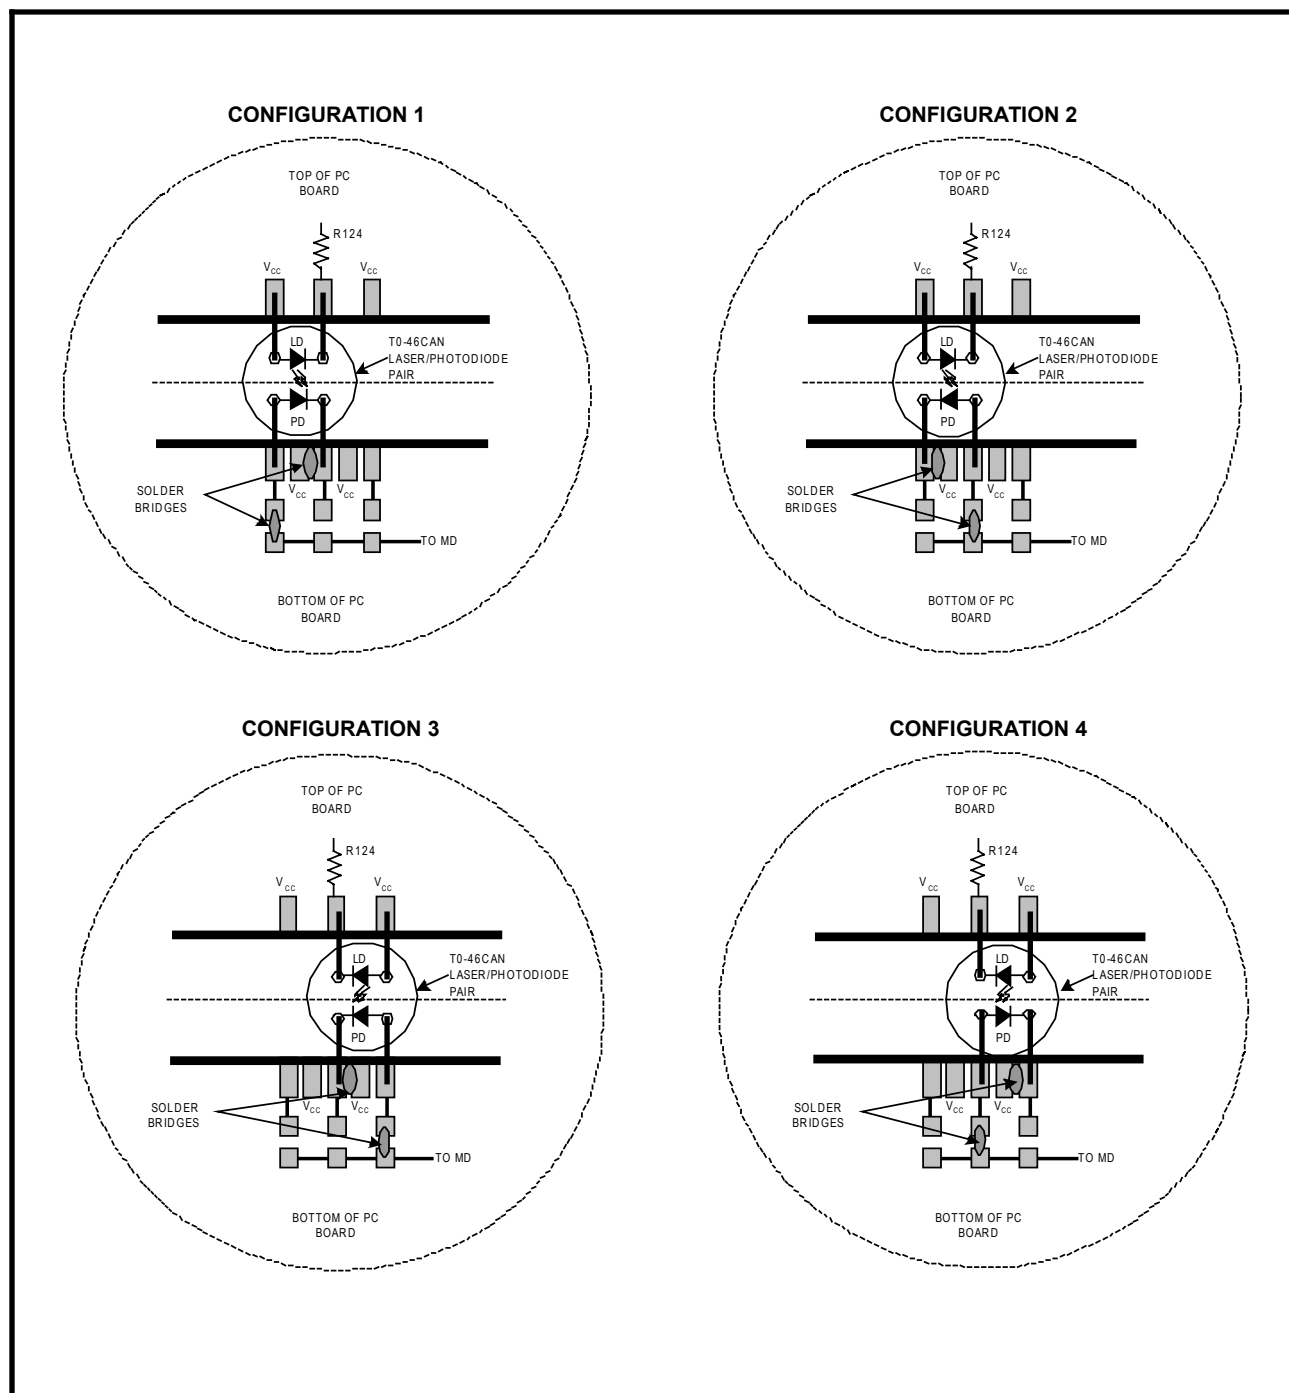

Figure 1. Attachment of Laser Diode/Monitor Diode to the MAX3656 EV kit
- Connect the monitor photodiode to two of the five pads on the bottom (solder) side of the PC board, directly below the laser diode pads. Connect the anode and cathode of the photodiode as shown in figure 1.